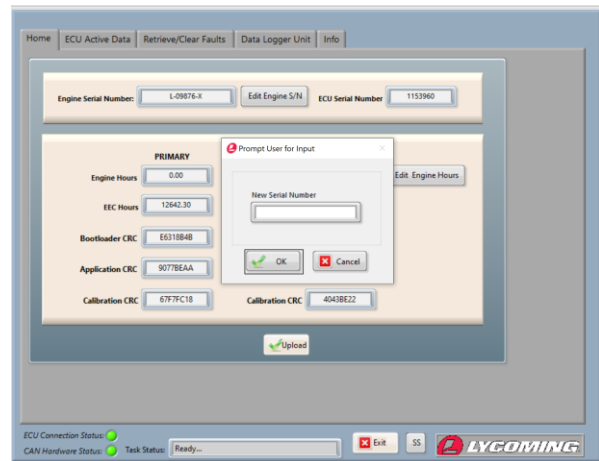

Figure 4
- A. Click the **Edit Engine S/N** (Figure 4) button on the “Engine Serial Number” panel.